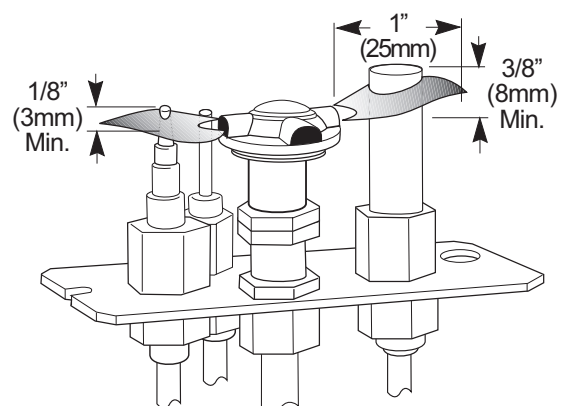

Figure 28. Proper pilot flame appearance.
2. **PILOT FLAME:** You can monitor the pilot flame through the view port located at the rear of the Right Log. See fig. 28. The pilot flame should be steady - not lifting or floating. The flame should be blue in color around the pilot hood, with traces of yellow toward the outer edges.
The pilot flame should engulf the top 3/8" of the thermopile (to generate millivolt current) and the top 1/8" of the thermocouple. The pilot flame should project out of the pilot hood 1" at all three ports. See fig. 28.